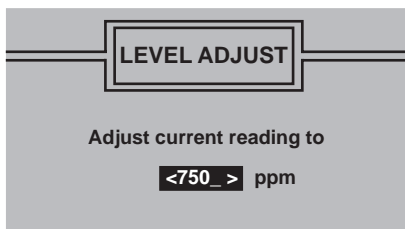

Fig. 5 — Entering Values for Quick Field Calibration
5. Enter the new value as displayed by the portable CO₂ gauge. See Fig. 5.